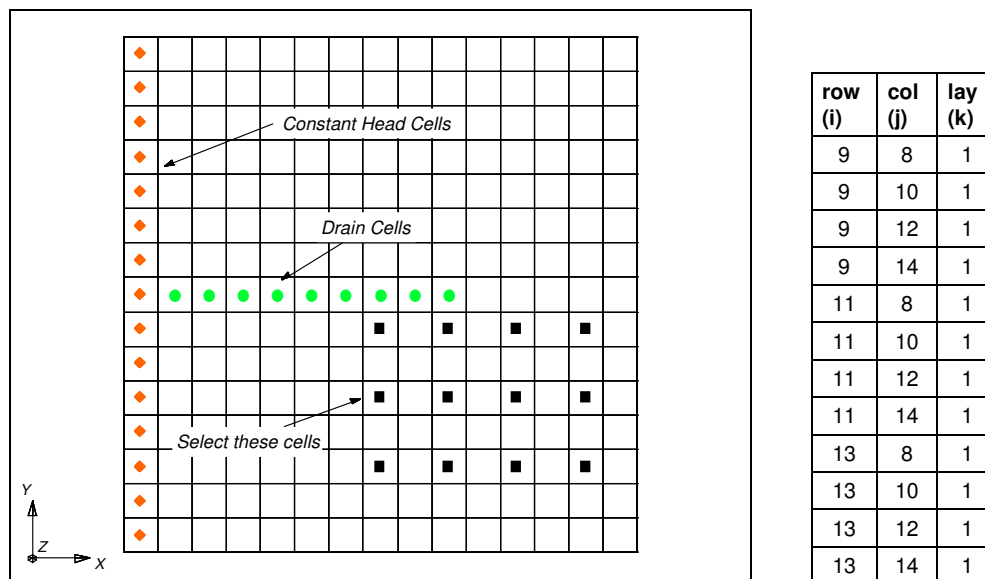

Figure 11-1 Cells to be Selected on Top Layer
1. While holding down the *Shift* key, select the cells shown in **Figure 11-1**.